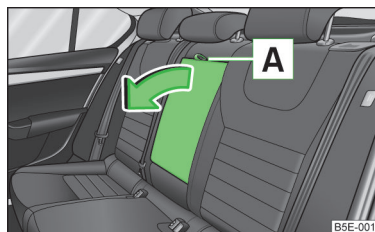

Fig. 53
- Pull on the loop **A** » Fig. 53 and fold the arm rest forwards in the direction of the arrow.